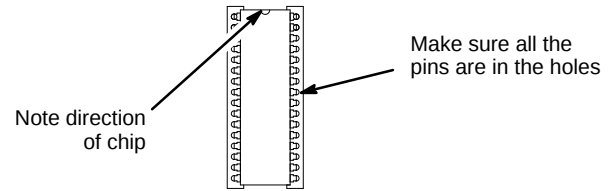

Fig. 3
5. Install the new software chips. Make sure chips U6 and U7 are placed in their proper locations. Verify the chips are facing the correct direction and all the pins are in the holes. See Fig. 3.